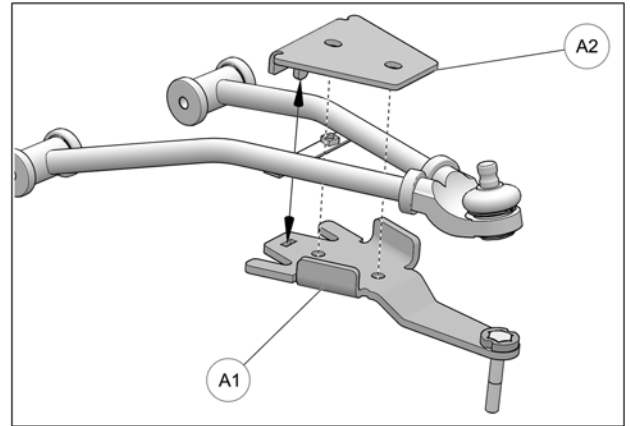

Fig. 16
5. Position bottom part of anchor bracket assembly (A1) under lower suspension arm. Position bracket cover (A2) over suspension arm. Align holes and insert the cover's tenon in the mortise cut in the bottom part. Refer to Fig. 16